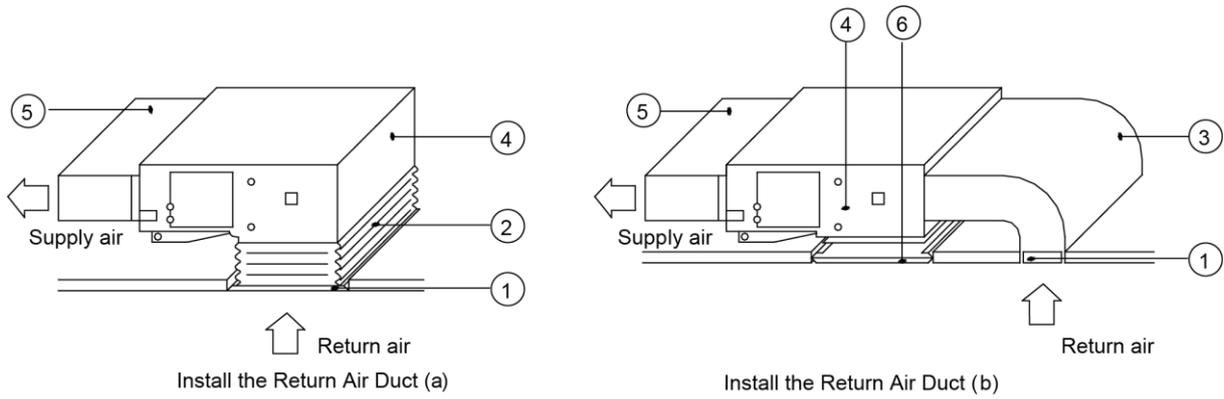

Fig 4.4.8
- (2) If the bottom return air is desired, just change the place of the rectangular flange and the return air cover plate.
- (3) Connect one end of the return air duct to the return air outlet of the unit by rivets and the other to the return air louver. For the sake of the convenience to freely adjust the height, a cutting of canvas duct will be helpful, which can be reinforced and folded by 8# iron wire.
- (4) More noise is likely to be produced in the bottom return air mode than the rear return air mode, so it is suggestive to install a silencer and a static pressure box to minimize the noise.
- (5) The installation method can be chosen with considering the conditions of the building and maintenance etc., as shown in Fig 4.4.8.